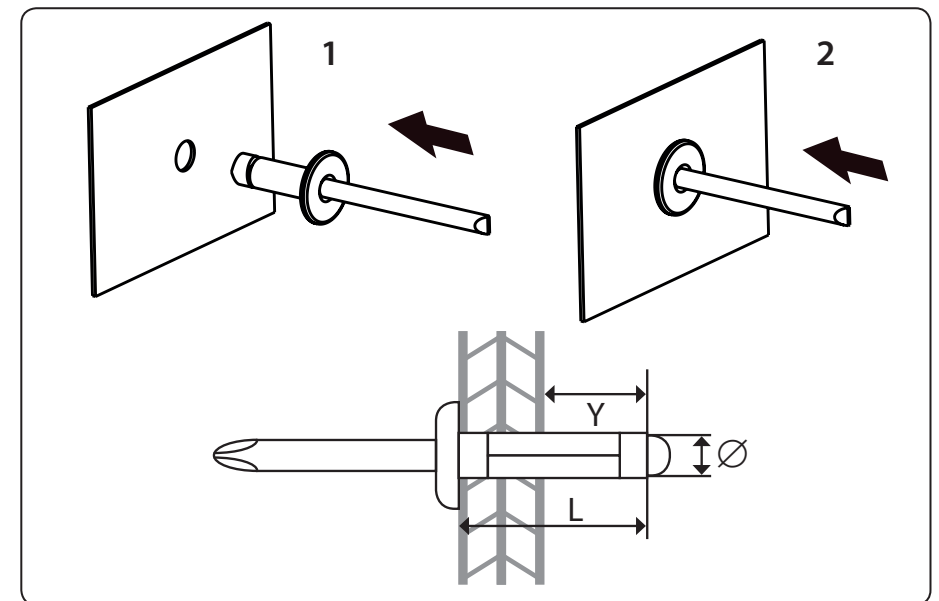

Fig.4
- b) Into a drilled hole with a diameter corresponding to the body of the rivet, insert the rivet body, see steps 1 and 2 in fig. 4. To ensure that the materials are properly joined, the rivet body must be sufficiently long with respect to the thickness of the materials that are being joined together.